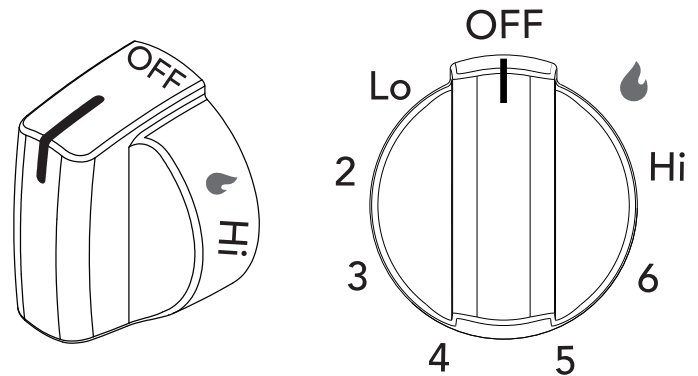

Figure 4: Surface control knob
2. Push the desired surface control knob in and turn counterclockwise out of the OFF position (Figure 4).